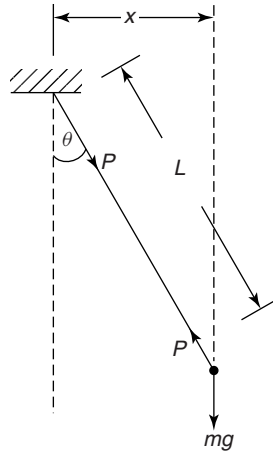

Figure 17.6
A simple pendulum consists of a particle of mass  $m$  attached to a mass-less string of length  $L$ , as shown in Figure 17.6.
**Problem 2.** If the simple pendulum of Figure 17.6 were of length 2 m, determine its frequency of vibration. Take  $g = 9.81 \text{ m/s}^2$ .